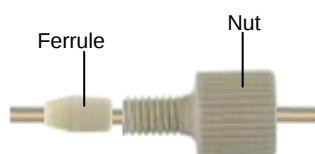

Figure 2. Placement of nut and ferrule on the tubing
3. Use the fittings supplied with the component (pump, mixer, pressure module, valves etc.), or from the spares provided. Place the nut and then the ferrule on the tubing (see Figure 2).